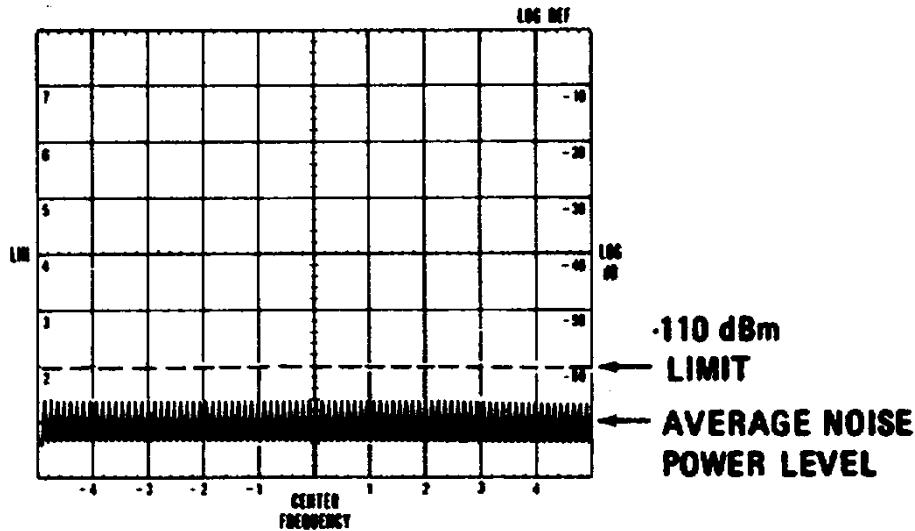

Figure 7-1. Sensitivity Measurement: CRT Display.
3. Observe the average noise power level on the CRT. It should be lower than -110 dBm as shown in Figure 7-1. Make sure the LOG REF LEVEL vernier is set at 0 during the measurement.